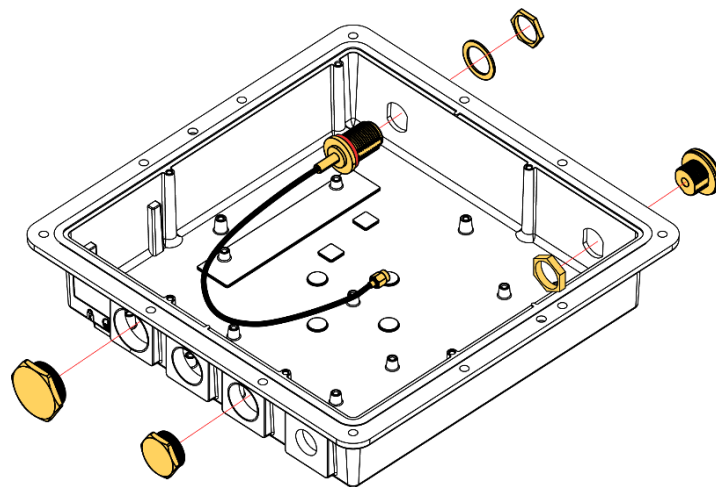

Figure 1: Positioning of all the plugs
2. At the opening marked "LoRa1", position and assemble the antenna connector. Use the remaining plugs to close the openings, as shown on Figure 1.